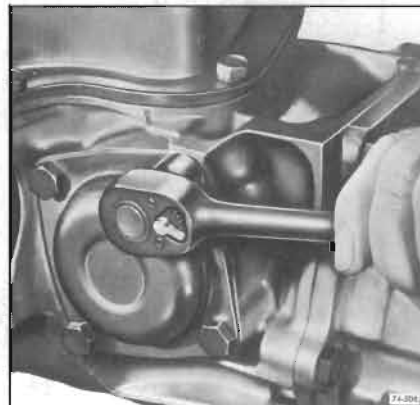

Figure 74-506
1. Remove attaching bolts, governor cover and gasket. See Figure 74-506.